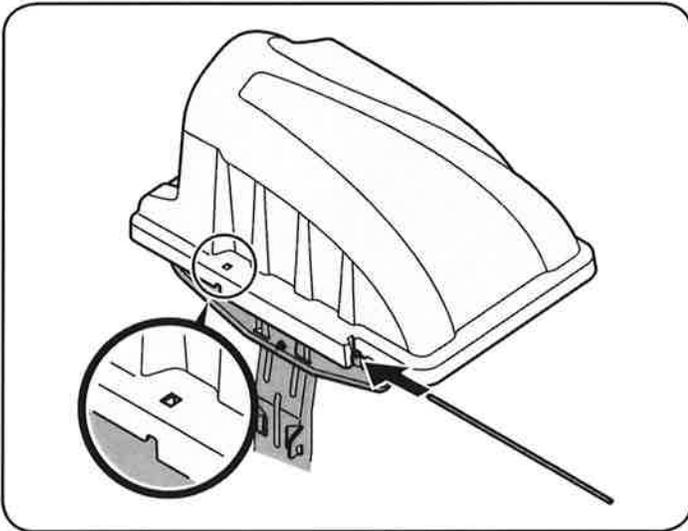
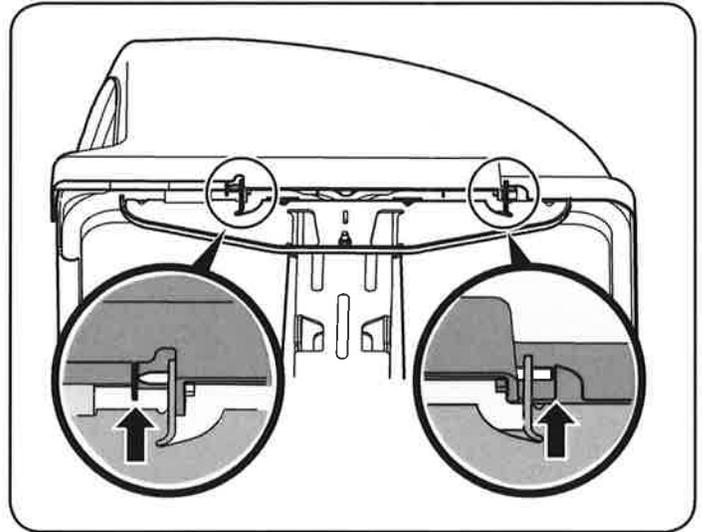

Figure 14
Figure 15
4. Slide the hinge pin into the hole located on the mounting tab, as in Figure 14. Use the cut-out window (See inset in Figure 14) to line up the hinge pin on the other side and push pin all the way in until it reaches the end-stop. At this point the pin clips into place and is secured by a tab in the bagger cover. See Figure 15.